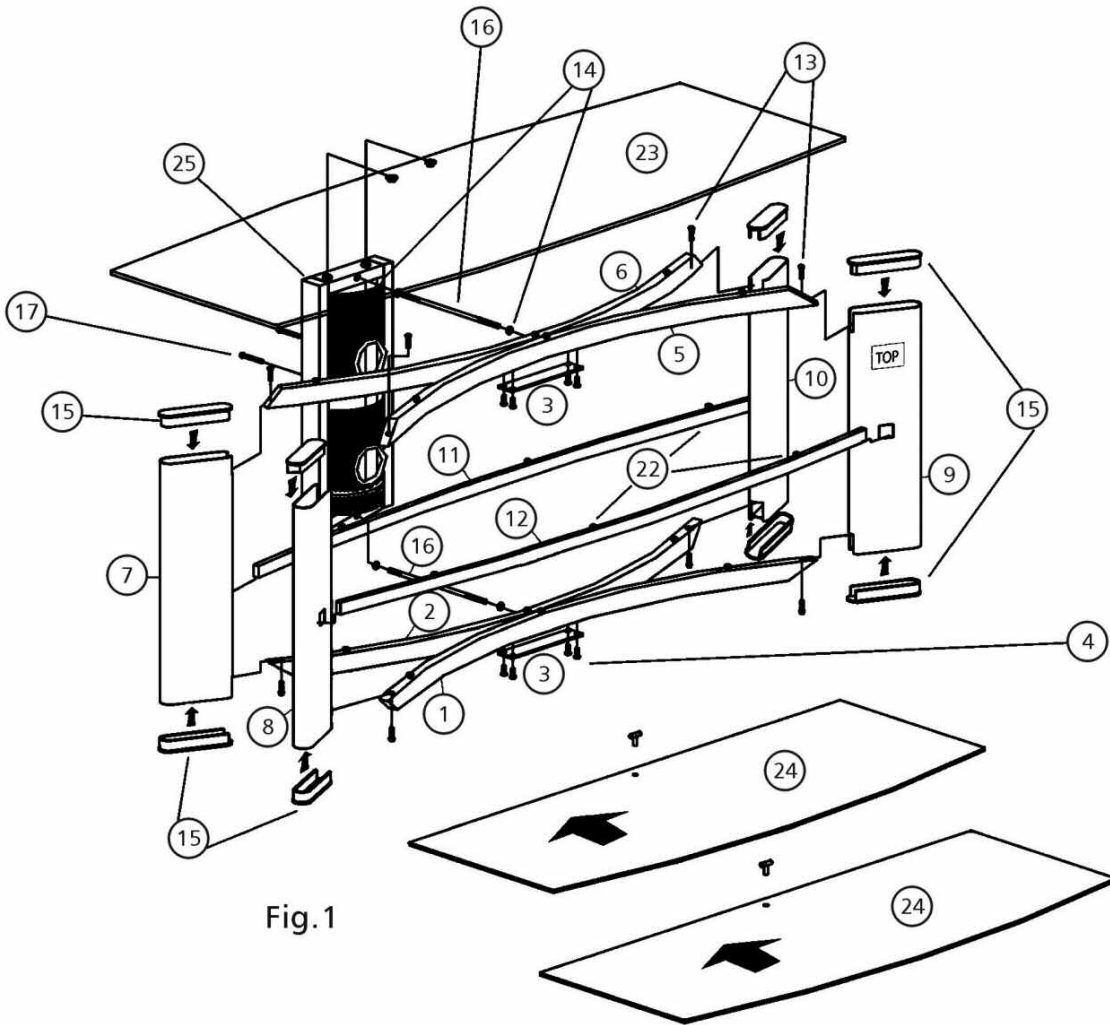

Fig.1
12. The REAR of the TOP and BOTTOM frame bars have a hole drilled in the center of the bars where the FRONT and REAR frame bars meet. From the REAR, PLACE a washer (14) over the hole in the TOP frame bars. Use the OPEN END WRENCH to SCREW the shorter threaded end of the LONG tie bar (16) through the REAR of the TOP frame bar and into the FRONT TOP frame bar until tight. REPEAT this tie bar (16) assembly for the BOTTOM frame bars.
13. PLACE a washer (14) over the exposed ends of the LONG tie bars (16). POSITION the open side of the CMS® (Cable Management System) frame (25) facing the REAR with the two screw holes in the TOP of the CMS® frame facing up. SLIDE the CMS® frame over the ends of the LONG tie bars (16) so that it is resting against the REAR center shelf support bar (11). ATTACH the rear of the CMS® frame (25) to the support bar with 1/4" x 60 mm screws. DO NOT FULLY TIGHTEN AT THIS POINT.
14. SECURE the LONG tie bars (16) to the rear of the of the CMS® frame with 1/4" x 16 mm OPEN ended screws (18).
15. GO BACK and FULLY TIGHTEN the CMS® frame to the table frame and the flat plate (3) to the two top frame bars.
17. PLACE glass pads (22) onto the left, center and right tops of the BOTTOM, TOP and CENTER shelf support bars as shown in Fig. 1.
18. PLACE the TOP (largest) shelf (23) onto the TOP bars with the two silver discs facing the rear and into the holes in the top of the CMS® frame (25). SECURE the silver discs to the CMS® frame with the 1/4" x 25 mm screws (19).
19. CAREFULLY PLACE the smaller shelves (24) onto the BOTTOM and CENTER shelf Support frames with the holes in the shelves facing towards the REAR. INSERT the shelves through the slots in the CMS® frame. LOCK the shelves in place with the T-shaped pins (20) through the holes in the rear of the shelves.